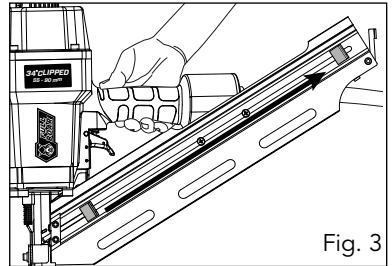

Fig. 3
**WARNING!** Always connect the tool to pressured air supply before loading fasteners. Only use fasteners specified in the Specifications in this manual can be used. Keep the tool pointed away from yourself and others at all times. Do not load fasteners with the trigger (2) depressed.
1. Grip the handle (8) firmly and slide the magazine feeder (4) all the way to the rear of the magazine (5) until it latches in place (fig. 3).